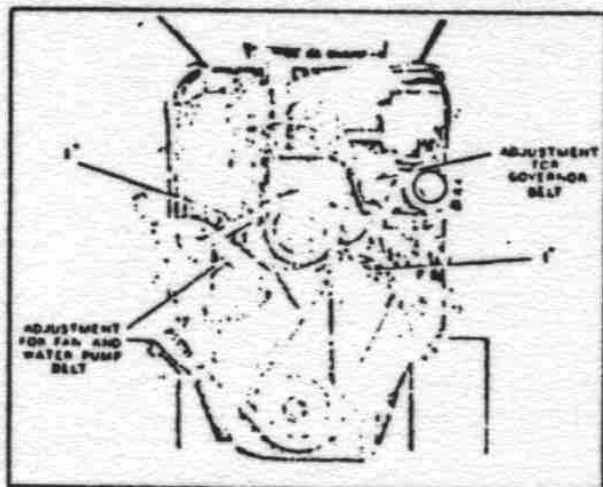

FIG. 18 FAN AND GOVERNOR BELT ADJUSTMENTS
(8) *Fan and Governor Belts.*—Inspect the fan and governor belts. If not in good condition, replace with new ones. Adjust the belt tension so that the top side of the belt can be depressed about $1\frac{1}{4}$ " to $1\frac{1}{2}$ ". The fan belt is adjusted by loosening the clamp bolt in the slotted bracket at the idle pulley, moving the idle pulley to obtain proper tension, then tightening the bolt. Slotted holes in the governor bracket permit adjusting the governor belt in a similar manner. See Fig. 18.